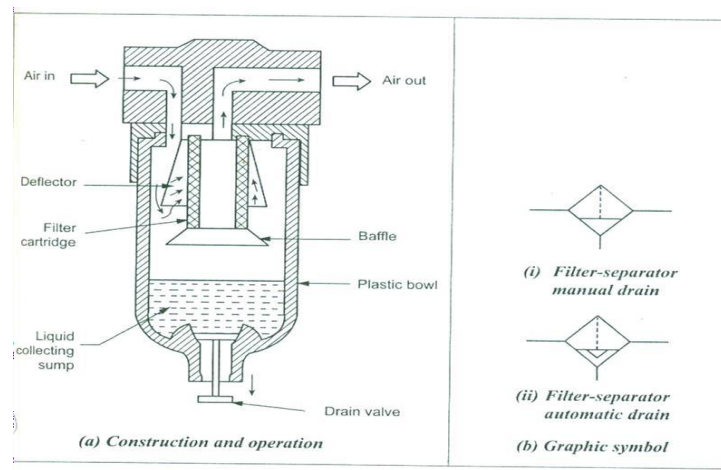

Fig.4.5 Air Filter
- The construction and operation of a typical cartridge type filter system is illustrated in fig.4.5.